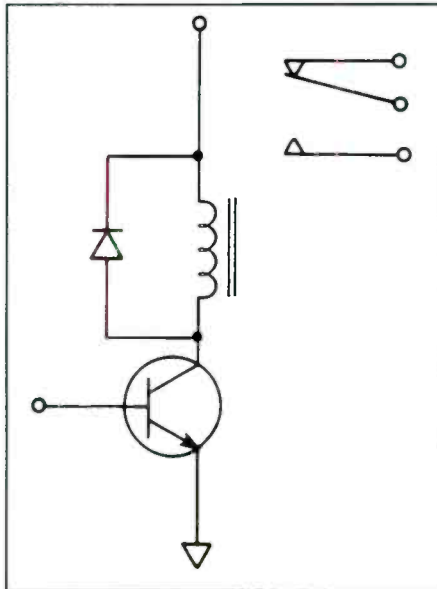

Figure 2. A diode may be used in a relay circuit in this manner to protect a transistor from inductive kickback.
9. A diode is sometimes connected across a relay coil to protect a transistor from inductive kickback (Figure 2). Which of the following may be used instead of the diode?